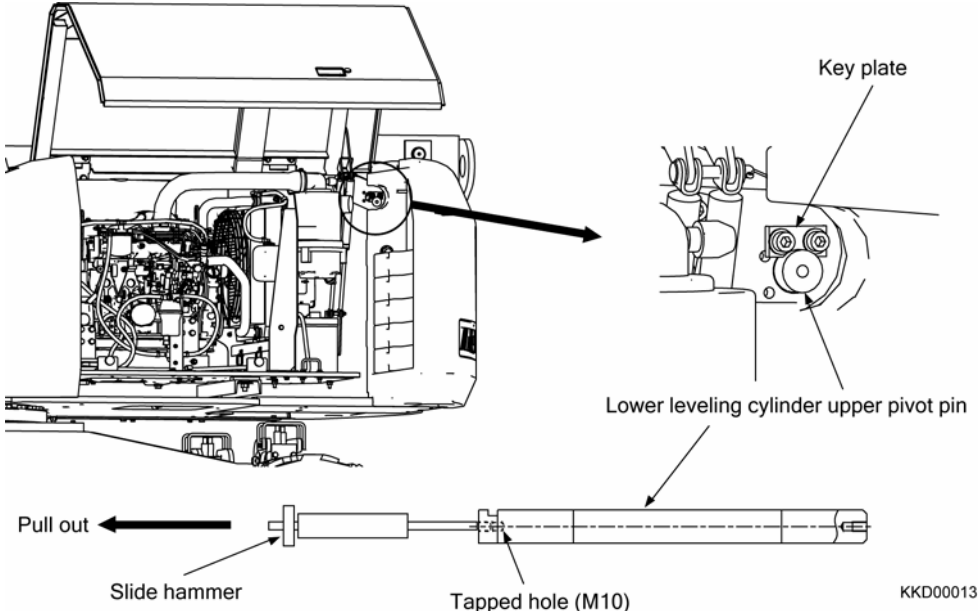

Fig. 2-42
17) Open the engine cover, take the key plate and then pull the lower leveling cylinder upper pivot pin out using slide hammer (Fig. 2-42).